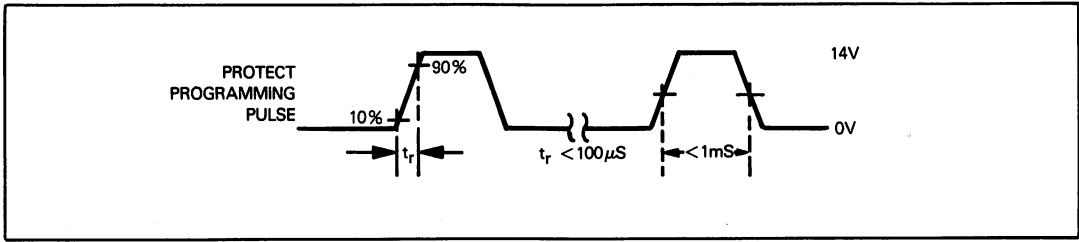

Figure 14-11. 8T32/3/5/6 IV Byte Protect Programming Pulse
- 9) Apply a protect programming pulse as illustrated in Figure 14-11 to every UD Bus pin. This includes UD Bus pins which were accessed during Steps 2 and 3, as well as UD Bus pins which were not accessed during Steps 2 and 3. The current should be limited to 150mA.